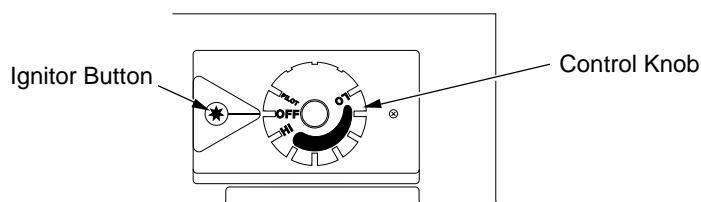

Figure 30 - Control Knob In The OFF Position
4. Wait five (5) minutes to clear out any gas. Then smell for gas, including near the floor. If you smell gas, **STOP!** Follow "B" in the safety information above. If you don't smell gas, go to the next step.
5. Turn control knob counterclockwise  to the PILOT position. Press in control knob for five (5) seconds (see Figure 30).